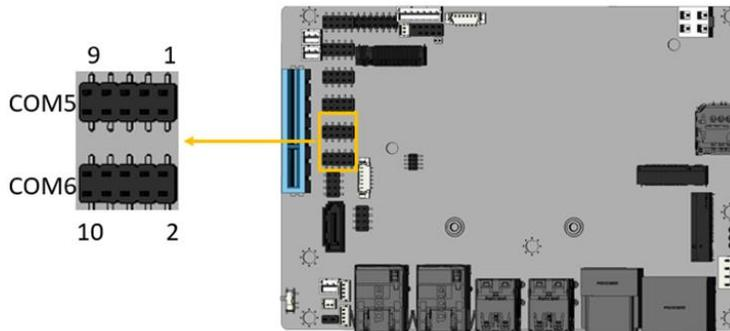

Figure 3-16: RS-232/422/485 Serial Port Connectors Location
- CN Location:** See Figure 3-16